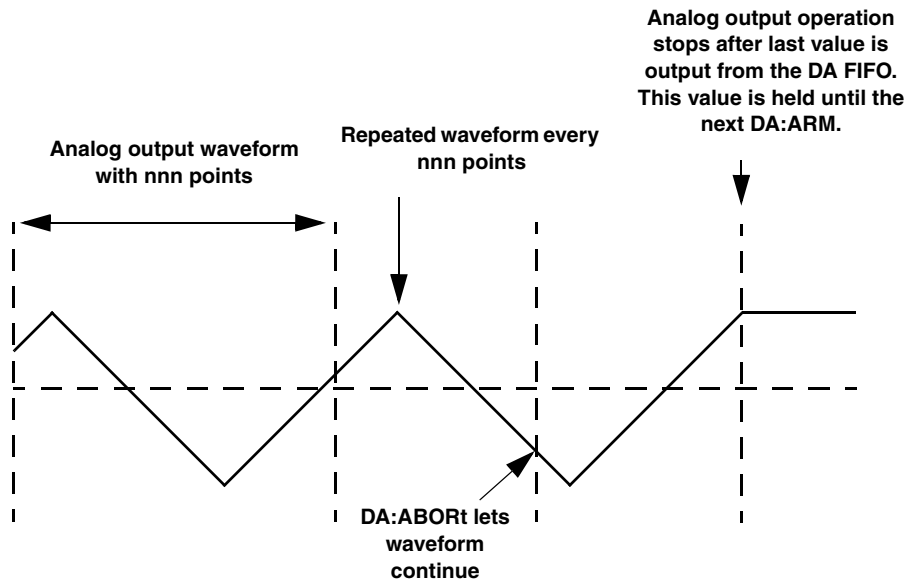

Figure 20: Stop When Last Value in Buffer is Output and Hold Last Output Value
- **Stop when last value in buffer is output; hold last output value** – If you want the analog output operation to stop after the last value has been output from the buffer and then hold the last value that was output until the next **DA:ARM** command, as shown in Figure 20, specify the optional *ENDBuffer* parameter for the **DA:ABORT** command.